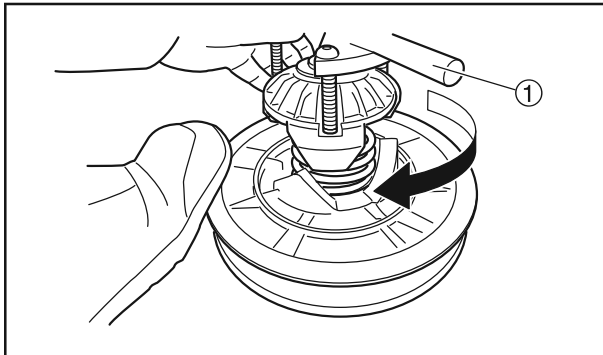

Figure 6-27
4. After tightening the nut to a certain extent, press down the secondary sheave, hold the handle of tool (**Figure 6-27, (1)**) and turn it clockwise, align to the alignment mark made when it was removed, and further tighten the nut.